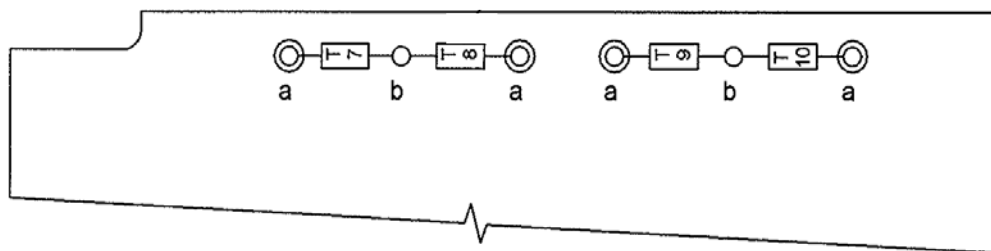

Figure 1 – Part View of Back Face of Rear Support (PNR: 001-LG-01-0820)
- (8) Carefully support the Power Supply Module (145) and tag and identify all wiring soldered to the Power Supply Module. Unsolder all wiring attached to the Power Supply Module. (Note: The red multi-core wire is connected to the Power Supply Module terminal +28V and the black multi-core wire is connected to terminal 0V are from the Filter Panel Assembly. The remaining black single core wires are from the unit wiring loom).
- (9) Remove the Power Supply Module (145) from the Filter and Power Supply Assembly (135). Place the Power Supply Module aside as it will not be refitted.
- (10) Refer to Figure 1 below. Find Tranzorbs T7, T8, T9 and T10 (320) attached to the back face of the Rear Support Panel (235). Tag and identify location of all grey single core wiring soldered to the Tranzorbs and the single black multicore wire soldered the "T7B" terminal. Also make a note of the routing followed by each wire. Unsolder the grey single core wiring attached to the Tranzorbs and the black multicore wire attached to the "T7B" terminal. Also unsolder the black multicore bonding wire link between the "B" terminals and keep. (Note: The grey wires are a part of the unit wiring loom and the black multicore wire soldered to the "T7B" terminal is the earth bonding wire to the bonding tag on the structure of the Filter Panel Assembly, see paragraph 3. B. (17) below.
- (11) Remove the two countersunk head M3 screws (140) securing the Power Supply and Filter Assembly (135) to the Rear Support Assembly (235) and keep. Remove the Rear Support from the unit. Place the rear support aside as it will not be refitted.
- (12) Find ARINC connector Shell 1C. Remove wires from sockets 1 (Red), 2 (Black), 9 (Blue), 10 (Red) and 11 (Blue).
C. Re-assembly (IPL Fig.1)
- (1) Take new Rear Support Assembly (PNR: 001LG010820). Refer to Figure 1 above and the black multicore bonding wire link removed in Paragraph 3. B. (10) as a template. Using a 80 mm (3.15 inch.) length of black wire detailed in Paragraph 2. C. (2) (b), solder a bonding wire link between "B" terminals. Take the four new Tranzorb (PNR: 2826318608) and solder Tranzorbs in positions T7, T8, T9 and T10 to tags on back face of the Rear Support Panel. Bond the Tranzorb body to the Rear Support using adhesive sealant detailed in Paragraph 2. C. (2) (b). (Note: The adhesive is a damping mechanism between the Tranzorb body and panel. The Tranzorbs T7, T8, T9 and T10 are to be conformally coated using items detailed in Paragraph 2. C. (2) (b) above. Allow the adhesive sealant and conformal coating to dry in accordance with manufacturers instructions.